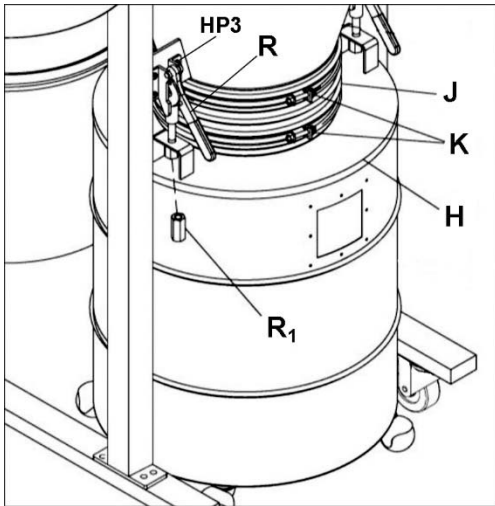

Figure 12
17. Install quick levers into threaded holes on cone flanges, using screws (HP3). See Figure 12.
18. Install hose (J) onto cone and drum lid and secure with two hose clamps (K) at top and bottom. See Figure 12.
21. Pull down both quick levers (R, Figure 12) then assemble drum lid (H, Figure 12) to quick
levers. Tighten long nut (R1, Figure 12) onto each quick lever.